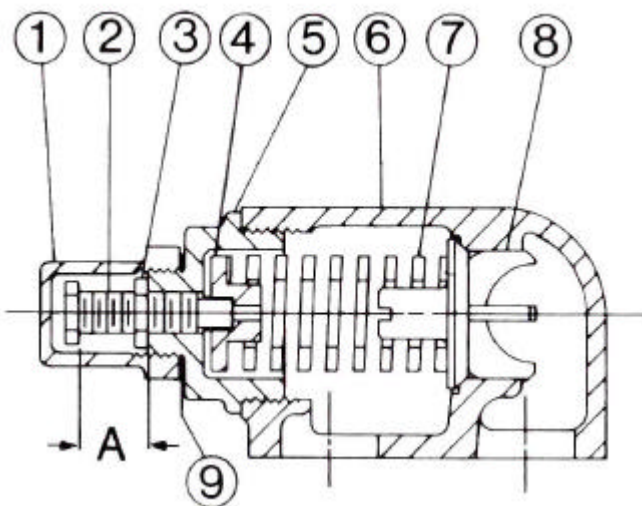
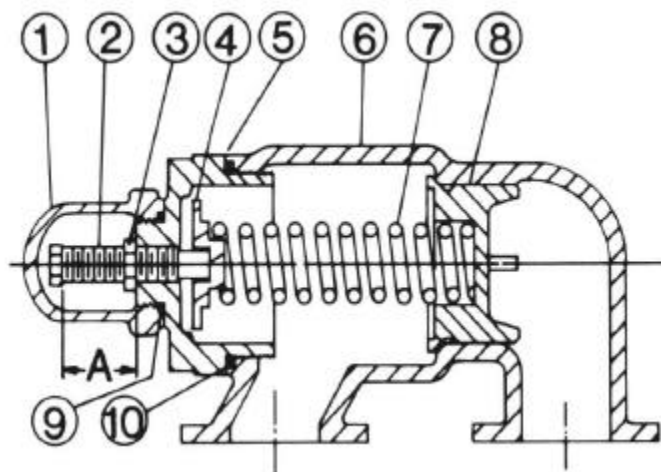

FIGURE 12
FIGURE 13
2. Measure and record length of extension of adjusting screw. **Refer to "A" on Figure 12 and Figure 13.**